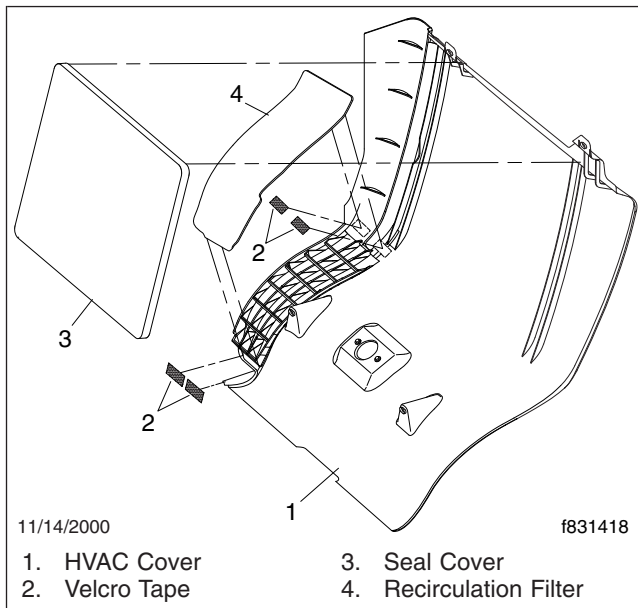

Fig. 5, Cab Recirculation Air Filter, Water-Valve Controlled
4. Using velcro tape, attach a new filter to the HVAC cover. See **Fig. 5**.